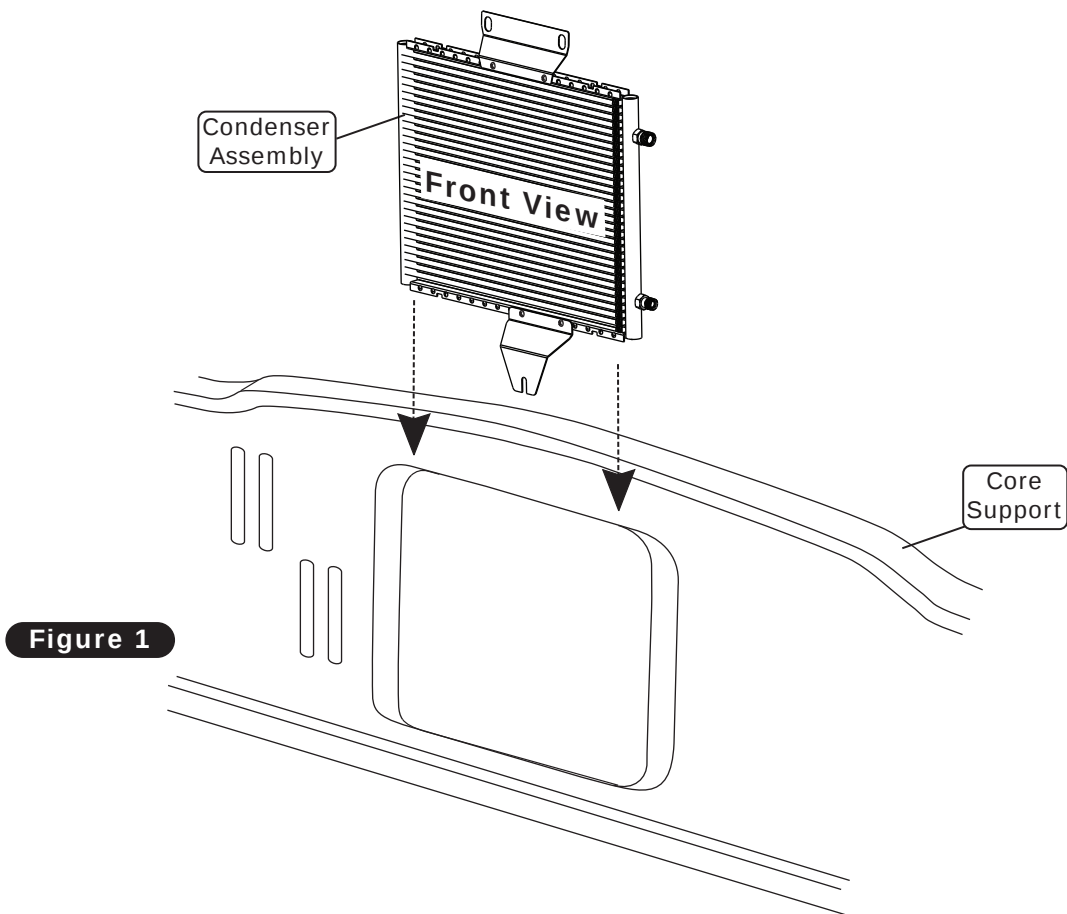
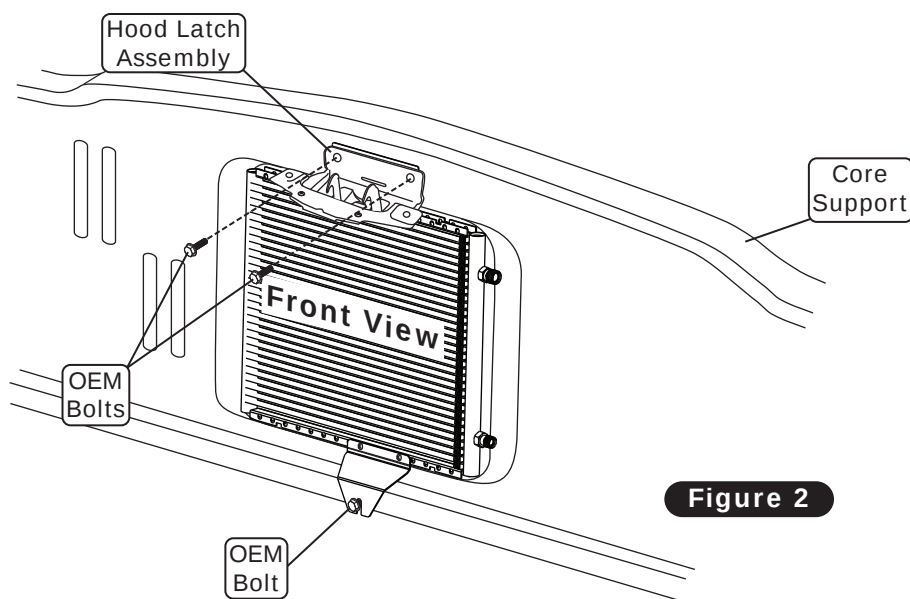

Figure 1
Figure 2
1. On a workbench, install the upper and lower mounting brackets onto the condenser using (4) 10-24 x 3/8" pan head screws and (4) 10-24 nuts with star washers. The upper bracket mounts through the 6th and 10th holes from the right (driver) side on the front flange of the condenser (See Figure 1, below). The lower bracket mounts through the 5th and 8th holes from the right (driver) side, also on the front flange (See Figure 1, below).
1. Carefully lower the condenser assembly into the vehicle in front of the core support (See Figure 1, below). Slide the lower mounting bracket slot behind the grille support onto the previously loosened OEM bolt (See Photo 2, Page 5, and Figure 2, below). Align the upper mounting bracket with the hood latch assembly, sandwiching the upper mounting bracket between the core support and the hood latch assembly (See Figure 2, below). Once the condenser is in place, reinstall all bolts removed in Step 6, Page 5. Tighten all bolts.